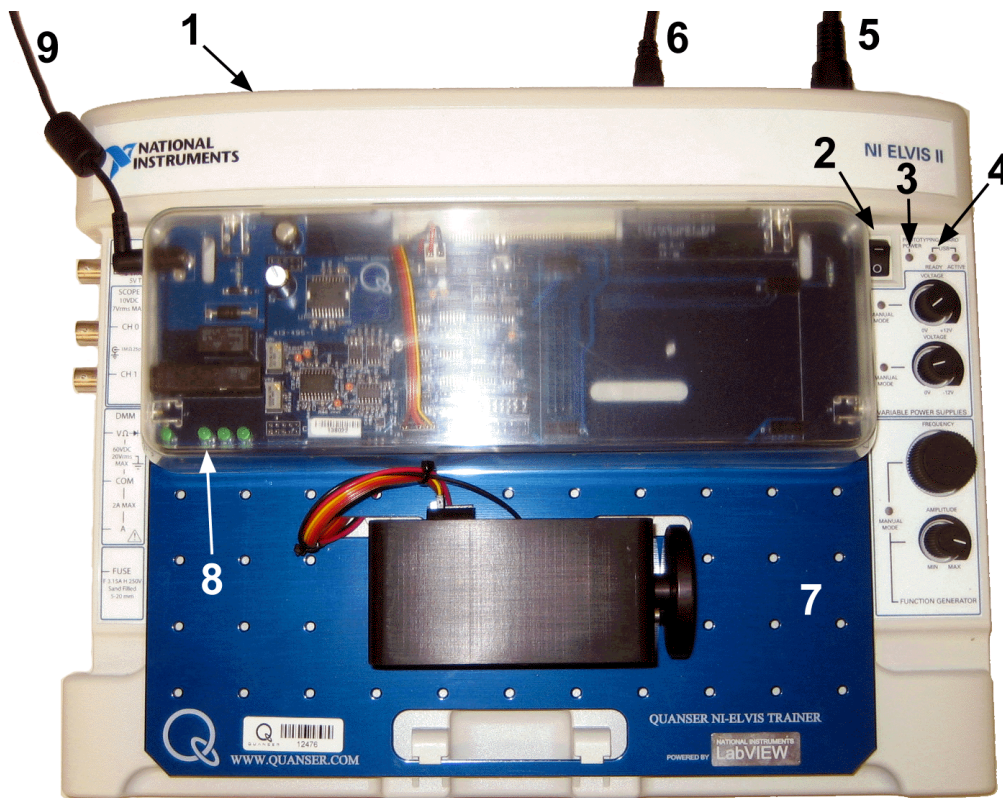

Figure 6.6: Components on ELVIS II and QNET
The procedure to install a Quanser Engineering Trainer (QNET) module on the NI ELVIS II is detailed in this section. An example of an installed system using the QNET DC Motor Control Trainer (DCMCT) module is pictured in Figure 6.6. Some of the components used in the installation procedure are located and marked by an ID number in Figure 6.6, and described in Table 5.
7. Turn ON the *Prototyping Board Power* switch, ID #2 shown in Figure 6.6.